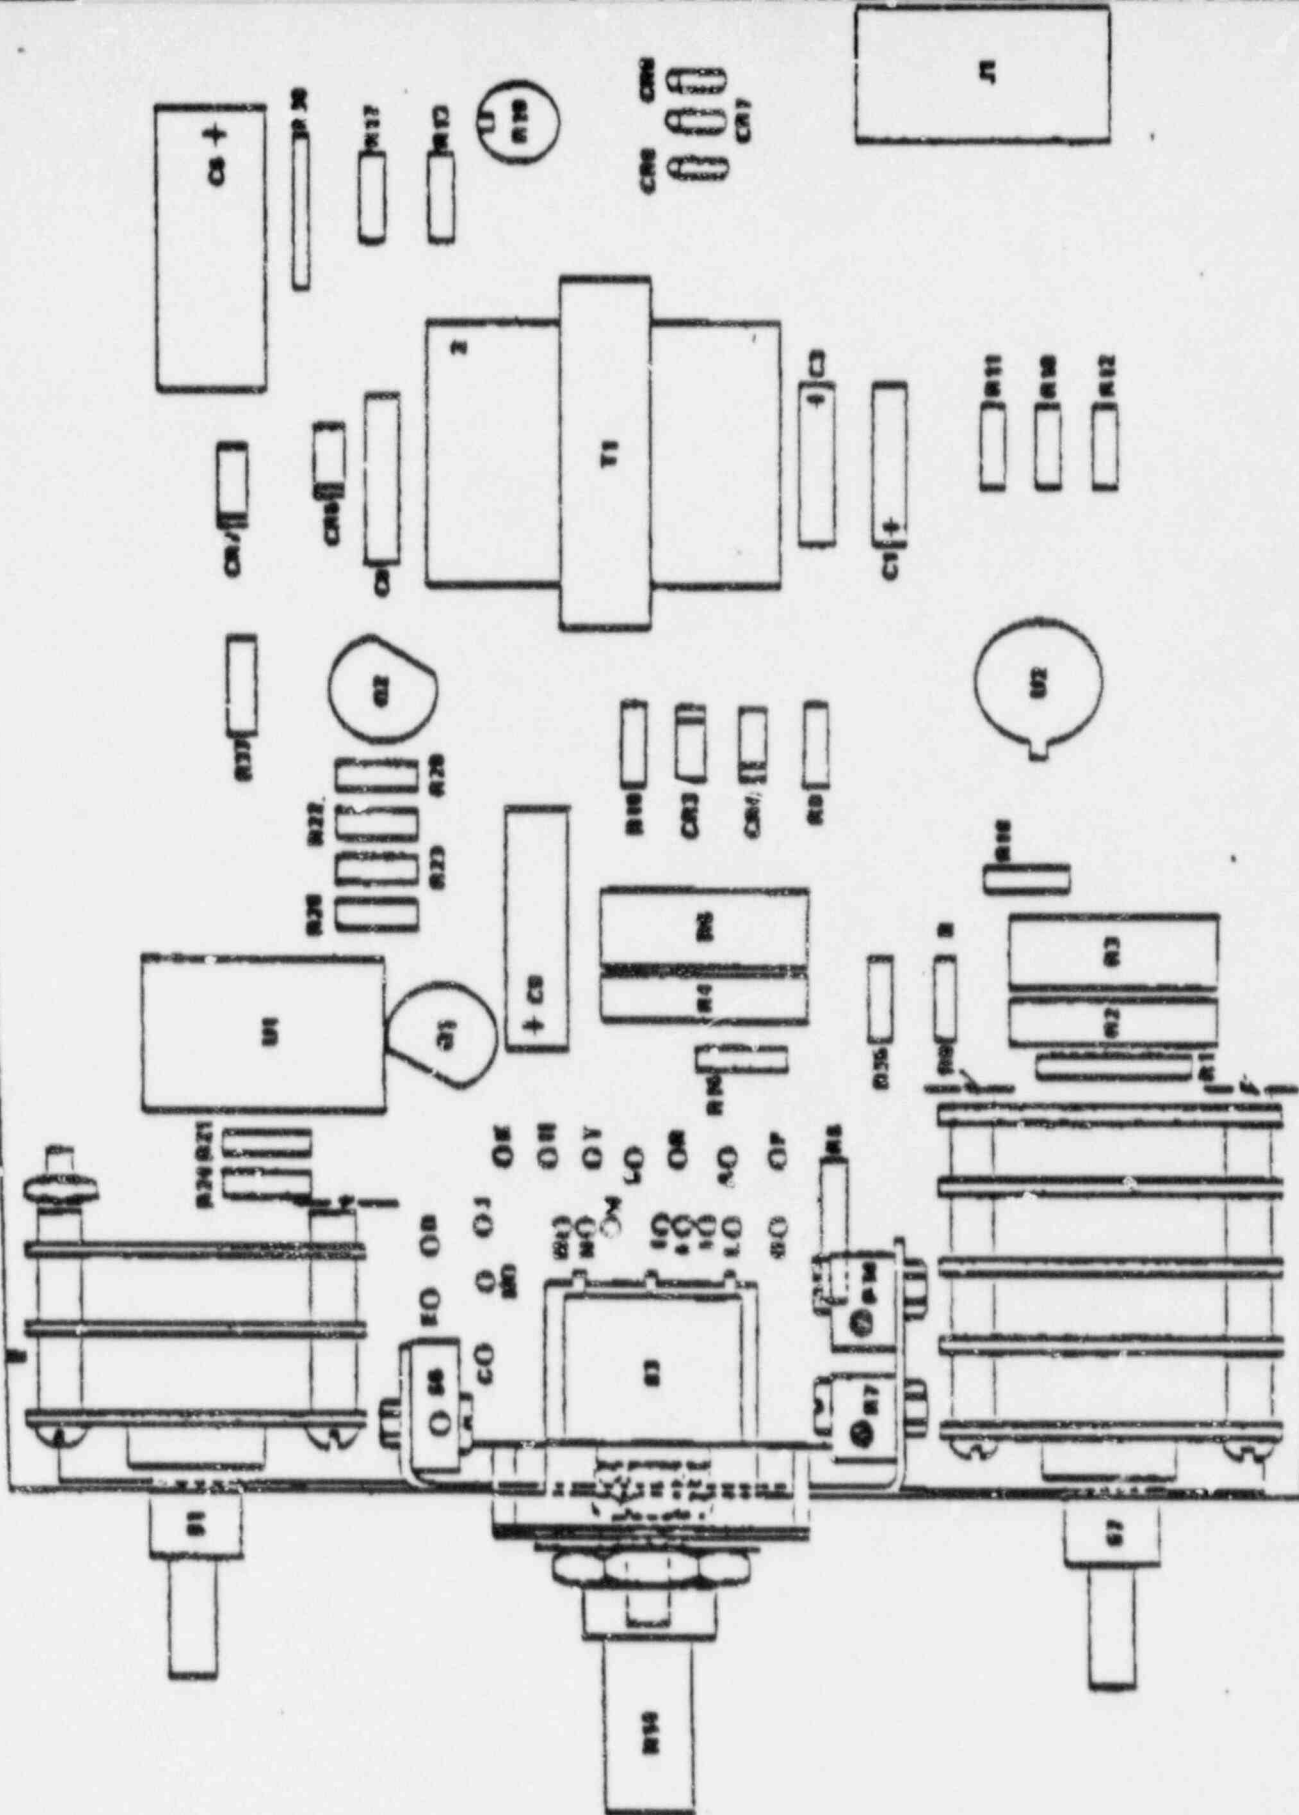
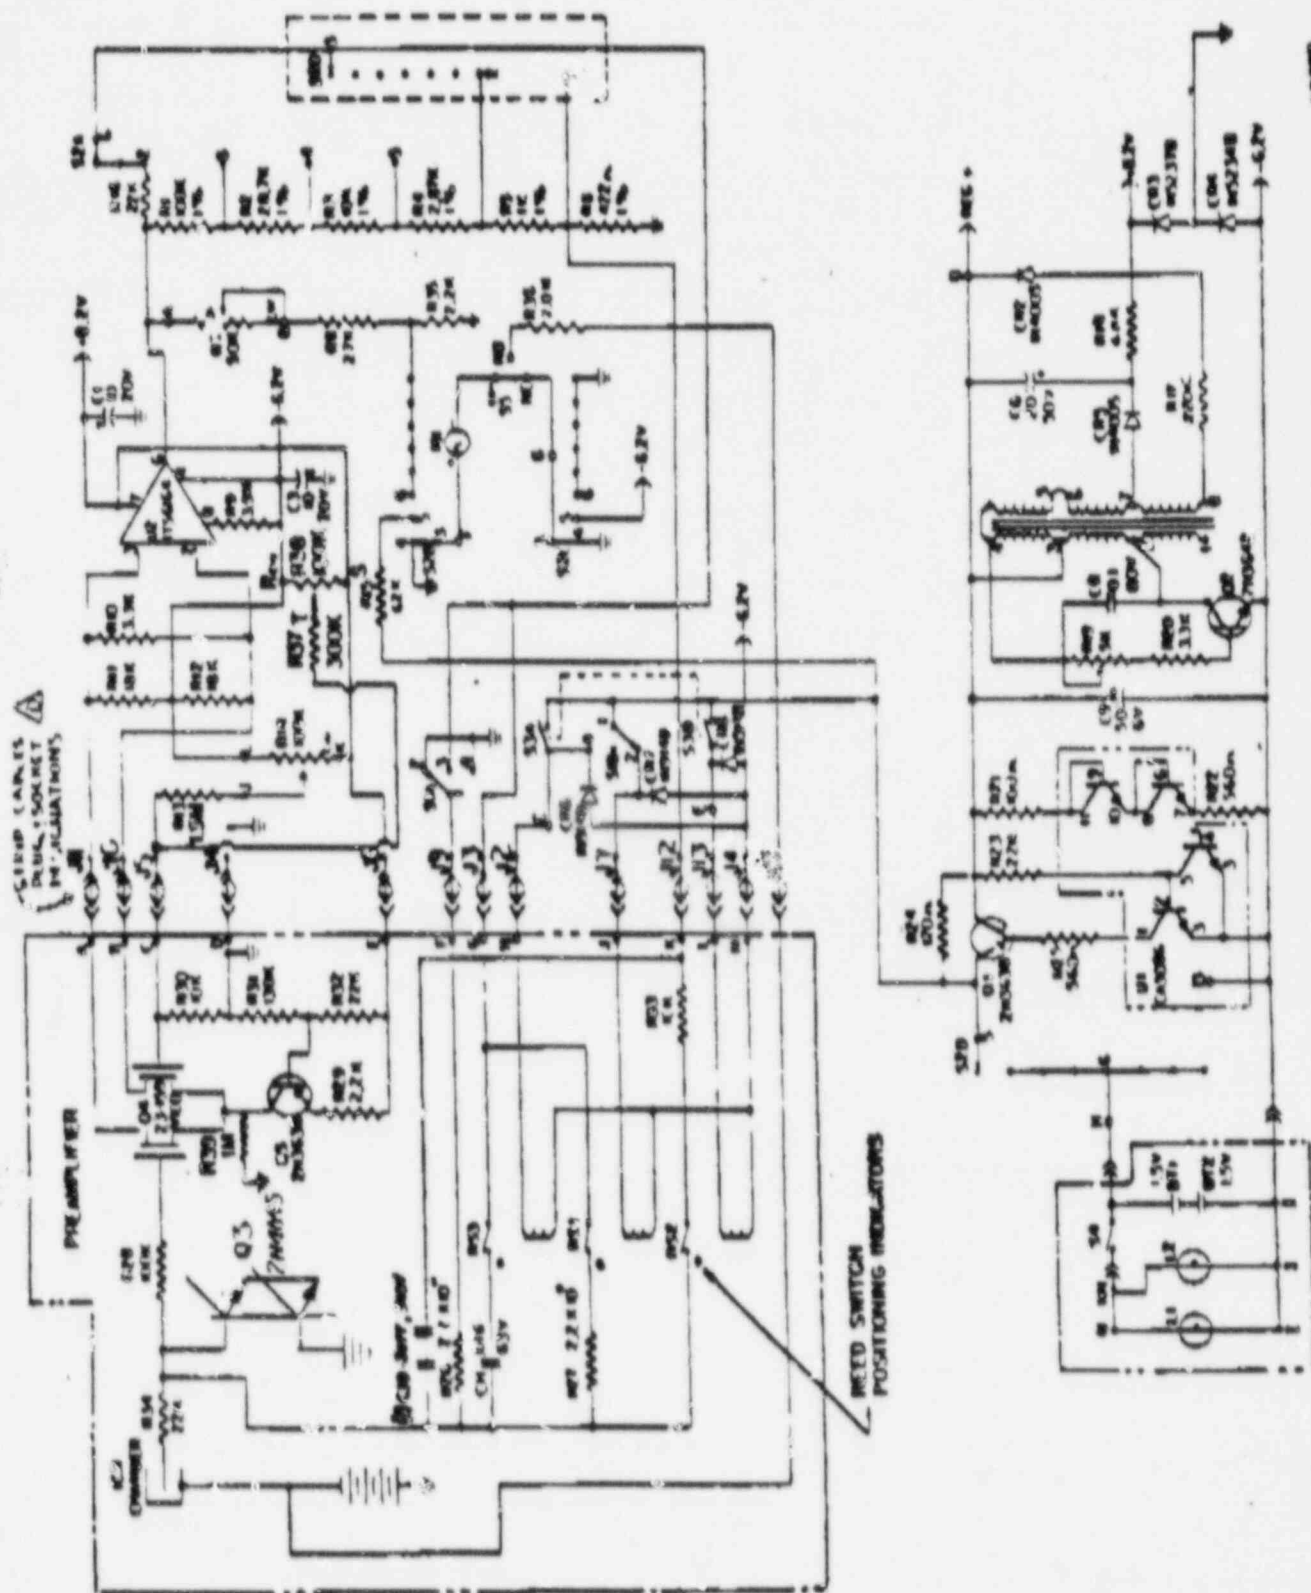

FIGURE 9 Circuit Board Assembly
FIGURE 10. Schematic Circuit Diagram
9. If these voltages are correct, check the voltages across R11 and R12. These should both be about 1.5 volts and equal. Refer to Figure 9, Circuit Board Assembly and Figure 10, Schematic Circuit Diagram, for further continuity and voltage checks. If the difficulty seems to lie in the preamplifier, return the instrument to a VICTOREEN Service Representative.